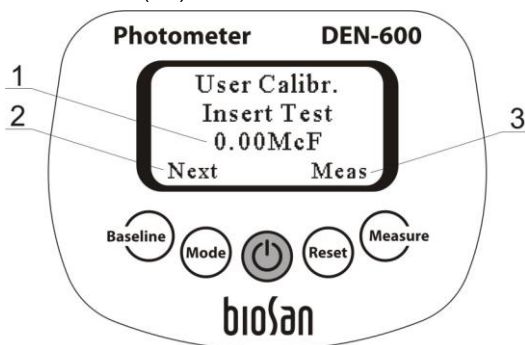

Figure 3. Creating user calibration
5.6. **Creating McF user calibration** (Figure 3).
- 5.6.5. Press **Baseline** key 5 times in McF mode to enter user calibration regime (Figure 3).
- 5.6.6. Insert the required McF standard (fig. 3/1) into the socket and press Meas (**Measure** key). If the required standard is not available press Next (**Baseline** key) to skip to the next standard.